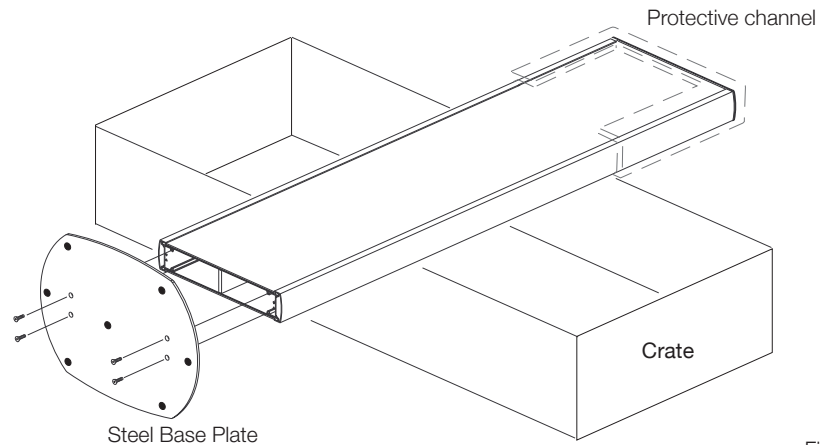

Fig 1
3. Use the (4) phillips head machine screws to attach base plate to kiosk as shown (Fig 1).